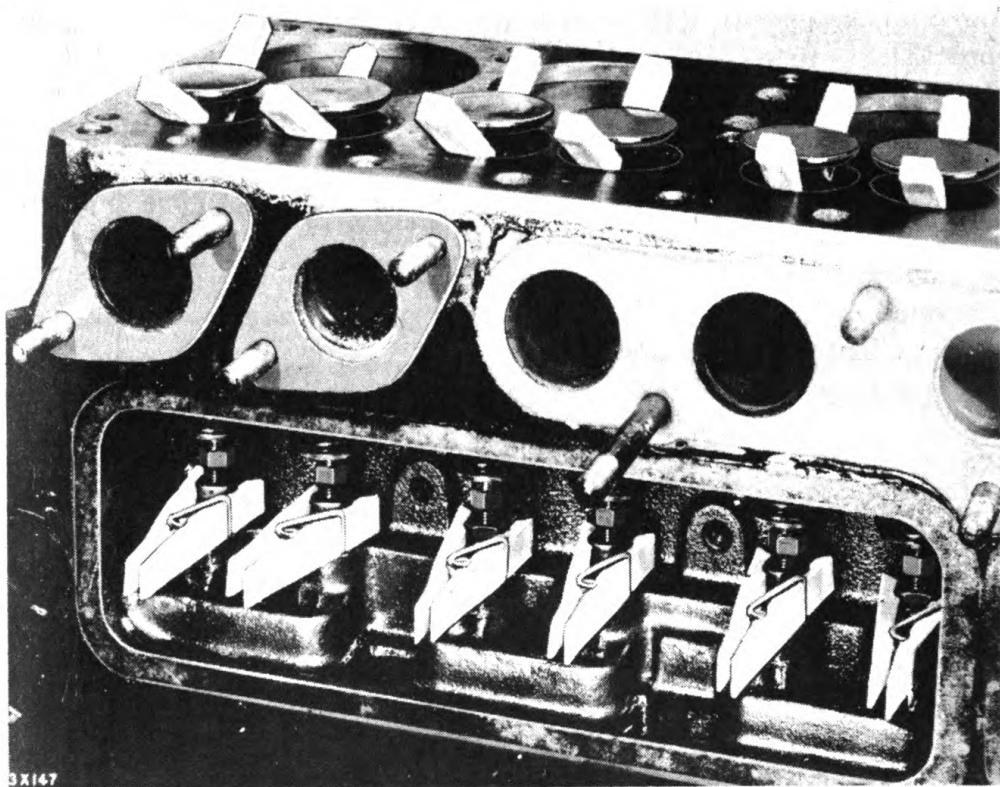

Figure 86A—Holding Up Valves and Tappets for Camshaft Removal
b. To remove the camshaft or thrust plate without removing the engine assembly, proceed to remove the radiator, then the water pump, cylinder head, fuel pump, oil pump, valve tappet cover plates and crankshaft pulley. Remove timing chain case cover, camshaft sprocket and timing chain. Raise the valves and hold them in position by inserting two wooden wedges under each valve head at opposite points to prevent cocking or warping of the valve head. (Figure 86A.) This operation is not necessary if the valves are being ground as the valves and springs will be removed.